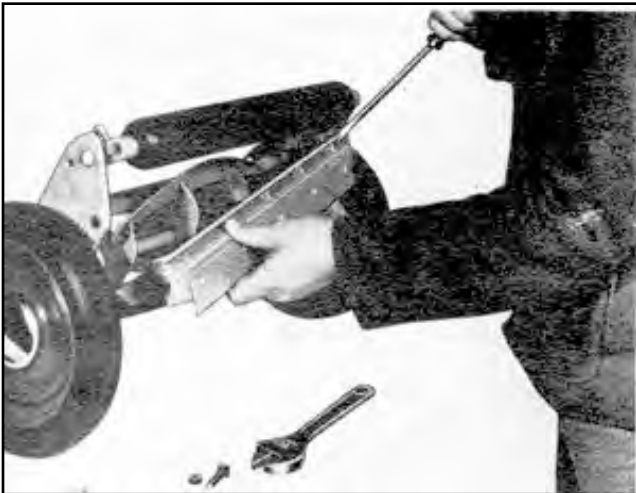

Fig. 12
51. The first step in the sharpening procedure is to remove the bed knife (sometimes called the straight blade, cutter bar, stationary blade and other names, we shall refer to it as the bed knife) from the mower. Most bed knives are held in the mowers by cap screws or nuts and bolts through the ends of the bed knife cast-back and the side frames of the mowers. Relieve the pressure or tension on the bed knife adjusting screws before removing the end bolts. Put a few drops of oil on all screws or bolts removed or loosened, this will help in re-assembling and adjusting and will prevent rust. This practice will also make mowers easier to work on when brought to you for future sharpening jobs. After the cap screws or bolts are removed, use a large screwdriver or pinch bar to spring the side frames of the mower apart so that the bed knife can be removed (see fig 12). Some mowers are constructed differently and the above procedure would not fully apply. However after you have worked on a few mowers, you will be able to remove any bed knife, no matter how it is constructed, in a very short time.